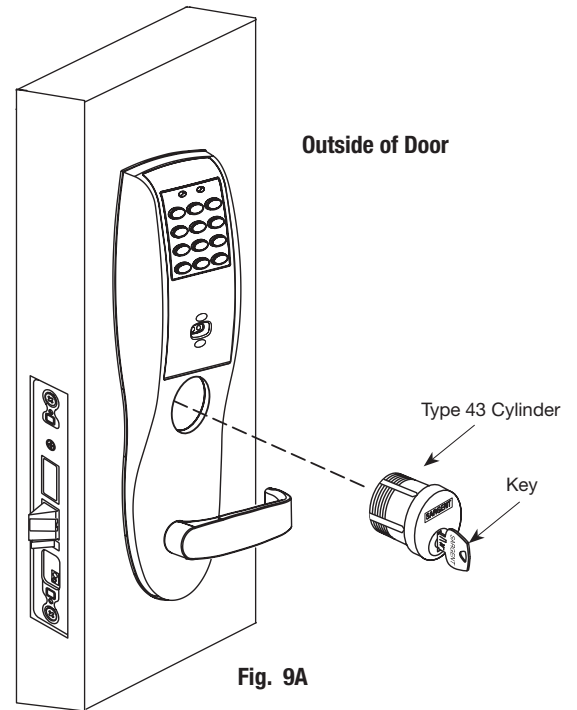

Fig. 9A
1. Slide cylinder through the spring and rosette/collar and screw into lock body, rotating the cylinder clockwise (Fig. 9A).